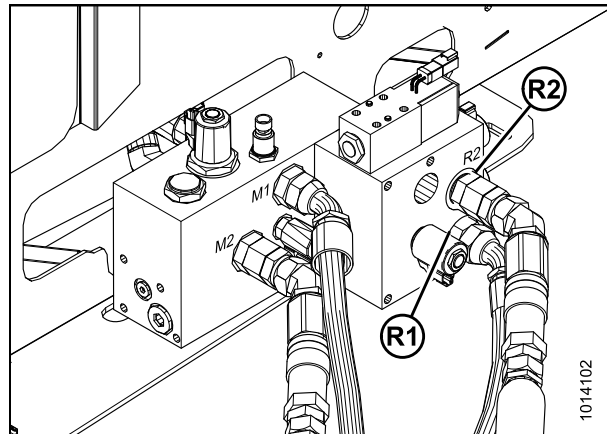

Figure 3.47: M200 Windrower Hose Connections with Reverser
If the windrower is equipped with a reverser valve for an auger header, replace the 90° fitting on hose (D) with a 45° fitting. Refer to Figure 3.47: M200 Windrower Hose Connections with Reverser, page 50.